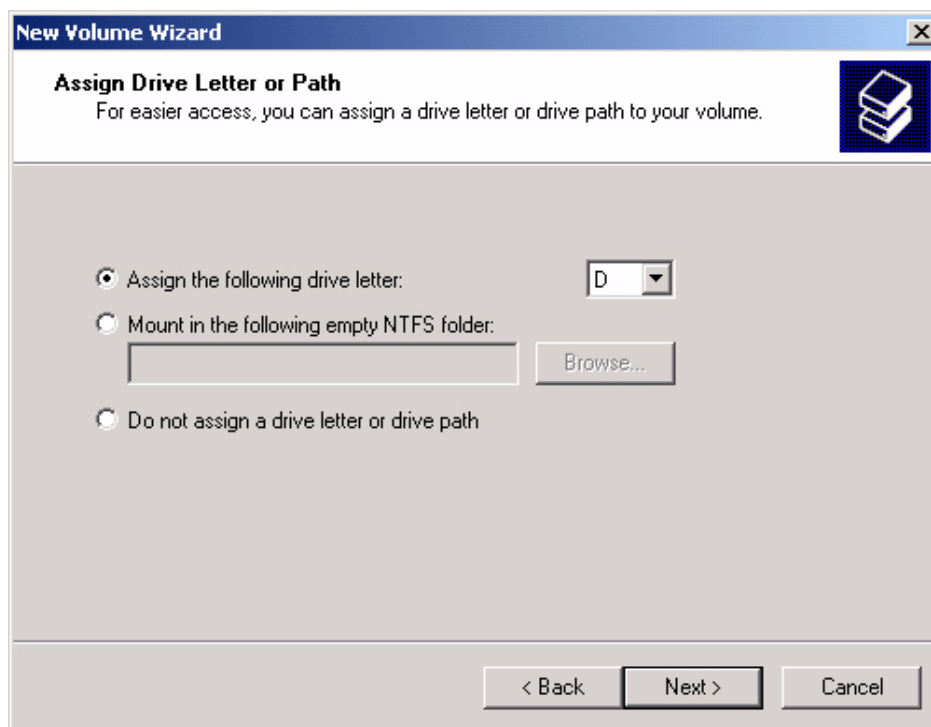

FIGURE 6-32. New Volume Wizard - Assign Drive Letters or Path Screen.
4. The *New Volume Wizard - Assign Drive Letter or Path* screen appears. Change the drive (array) letter, as desired. Click **NEXT >**. See Figure 6-32.